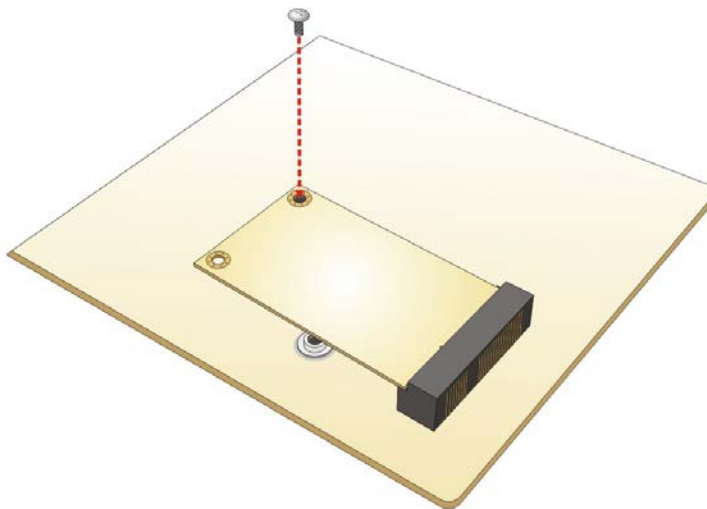

Figure 3-12: Securing the Full-size PCIe Mini Card
Step 6: Secure the full-size PCIe Mini card with the retention screw previously removed (Figure 3-12).